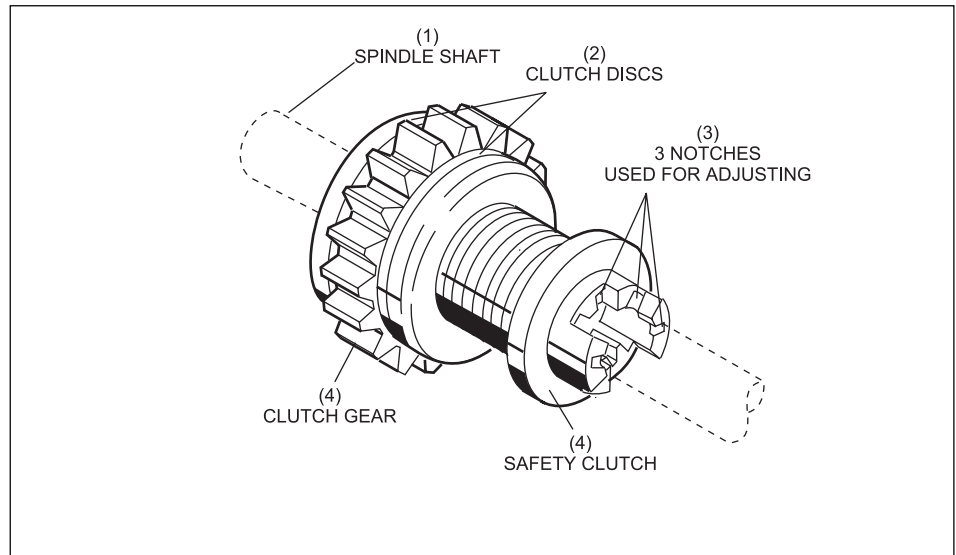

Figure 8-15. Reassembling Clutch.
5. Clean all the components with a water based cleaner and a dry towel. When reassembling the clutch, position the shiny sides of the two clutch discs to contact the clutch gear. *Figure 8-15.*